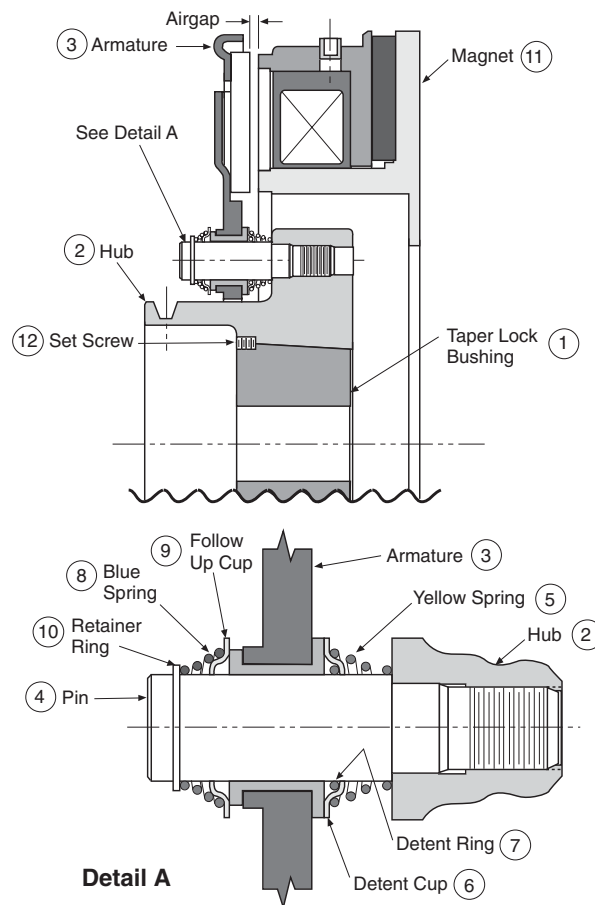

Figure 1
⚠ WARNING Keep fingers clear of the air gap area between the magnet (item 11) and the armature (item 3) - as the armature will be pulled sharply toward the magnet after the gap between them is closed to approximately 1/8 inch. See Figure 1. Injury can result if fingers are pinched between the armature and magnet.
Disassembling the Armature/Hub Assembly (See Figure 1)
Note: Make sure power to the brake is turned off. See Figure 1 for the following seven steps.